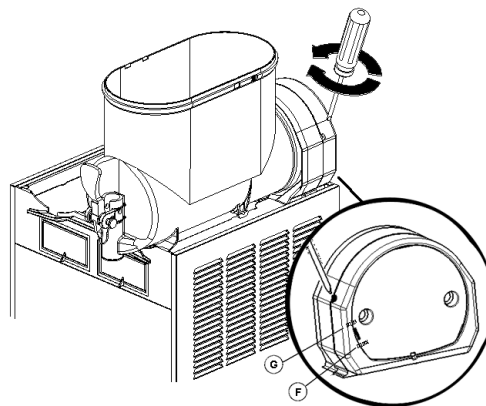

figure 5
- 1 Granita viscosity adjustment:** proper Granita viscosity is factory preset. To change the viscosity, if needed, use a standard screwdriver to turn the adjustment screw located in the rear wall of each container as follows (see figure 5):